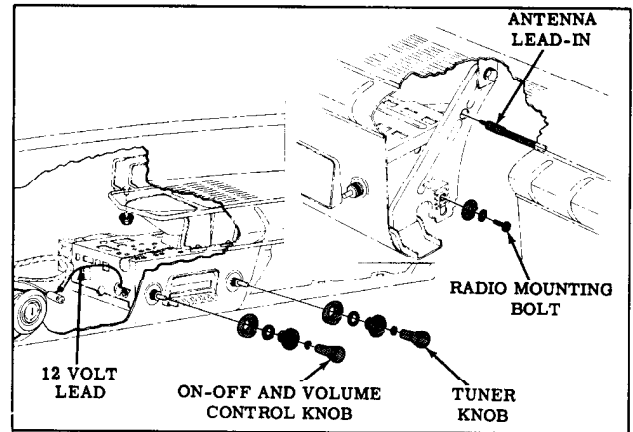

Fig. 12-13 Radio Installation
1. Disconnect radio lead from wiring harness, (Fig. 12-13) Disconnect antenna lead-in and speaker wire.